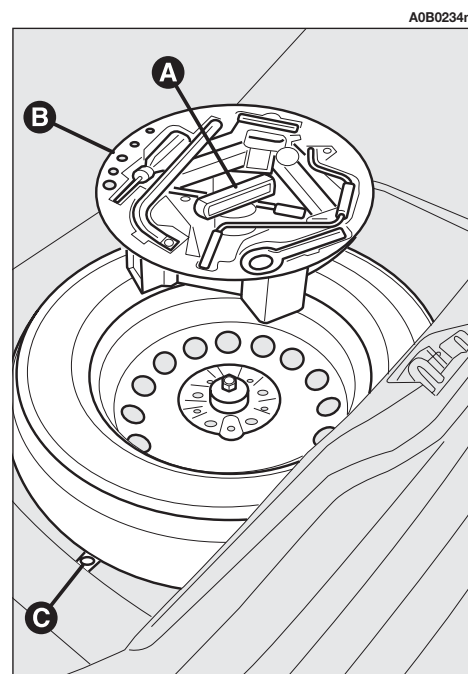

fig. 2
- Loosen the clamping device (handle) **(A-fig. 2)**.
– place the tool container on the spare wheel and secure everything with the clamping device (**A-fig. 2**).